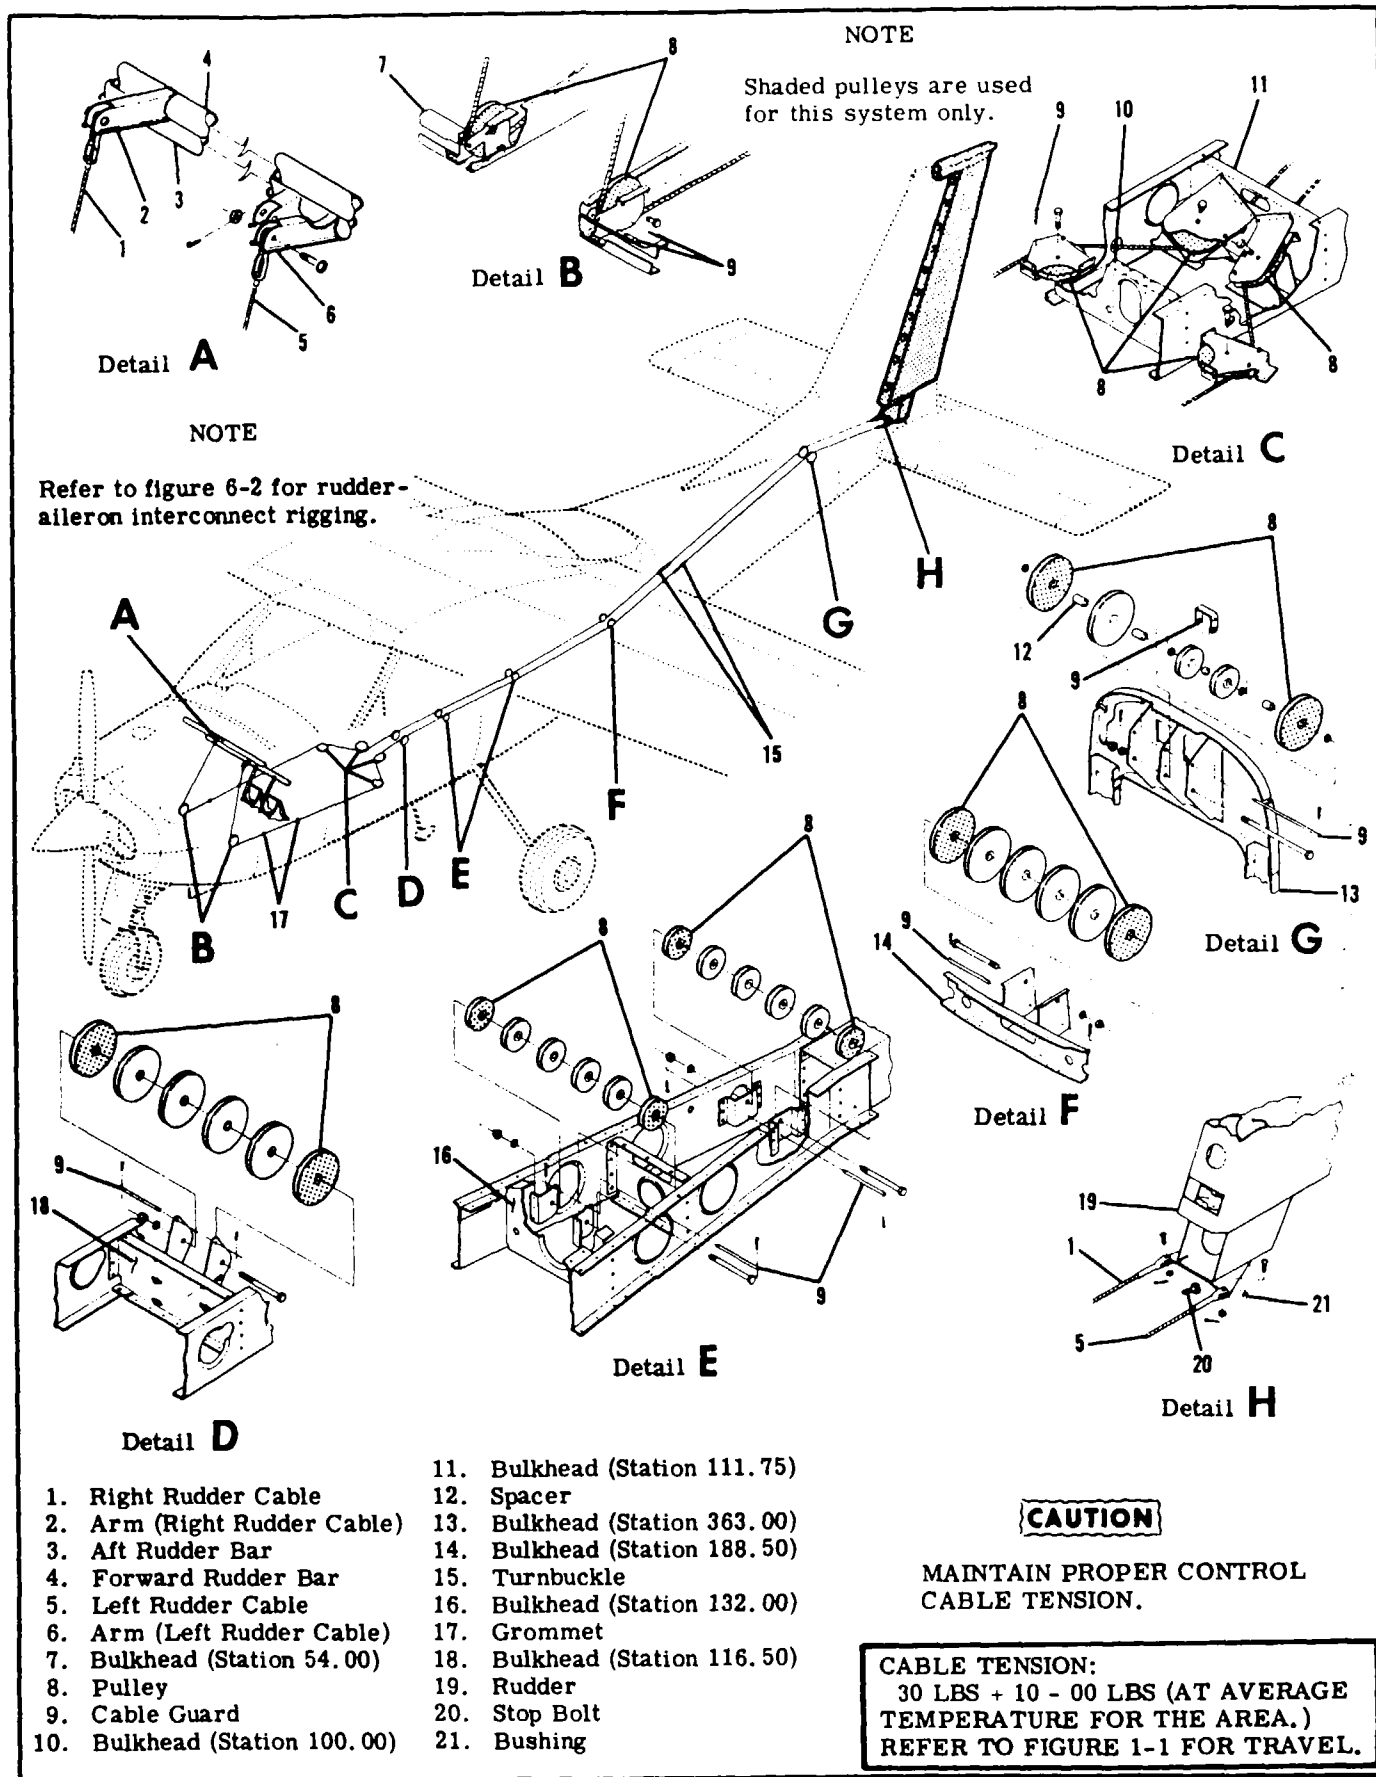

Figure 10-1. Rudder Control System
10-1. RUDDER CONTROL SYSTEM. (Refer to figure 10-1.)
- a. Disconnect master cylinder clevis rods (11) from lever assemblies (10).
- b. Disconnect all brake links (19) from rudder bars.
- c. Disconnect and remove the pilot rudder pedals (13).
- d. Disconnect and remove the copilot pedal support assemblies (20).
- e. Relieve rudder cable tension at turnbuckles (index 15, figure 10-1).
- b. Disconnect tail navigation light quick-disconnect (10).
- c. Relieve cable tension at turnbuckles (index 15, figure 10-1).
- d. Disconnect cables from rudder horn assembly (9).
10-9. CABLES AND PULLEYS. (Refer to figure 10-1.)
10-11. RIGGING. (Refer to figure 10-1.)